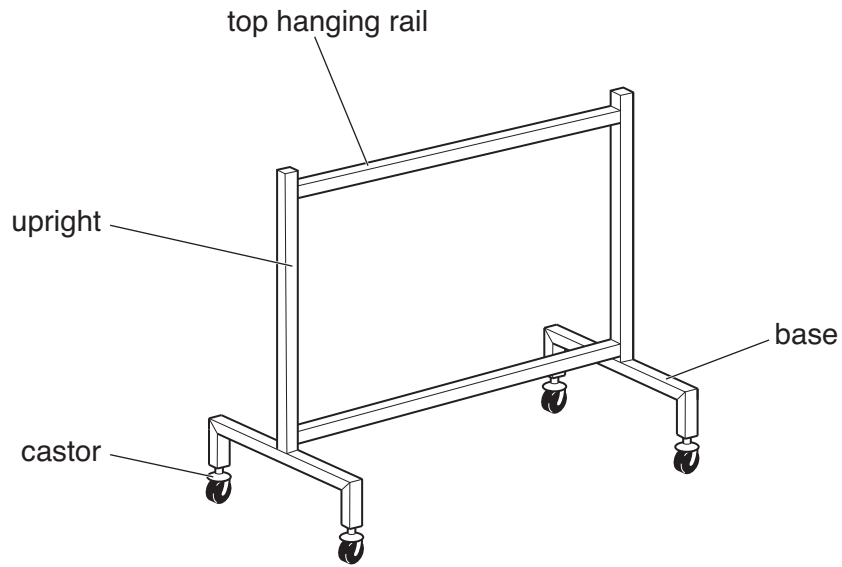

Fig. 5
- 5 Fig. 5 shows a portable hanging rack used on market stalls. The parts of the rack are made from 30 mm square aluminium alloy tubing.
- (a) Name the industrial process used to produce the aluminium alloy tubing for the hanging rack shown in Fig. 5.